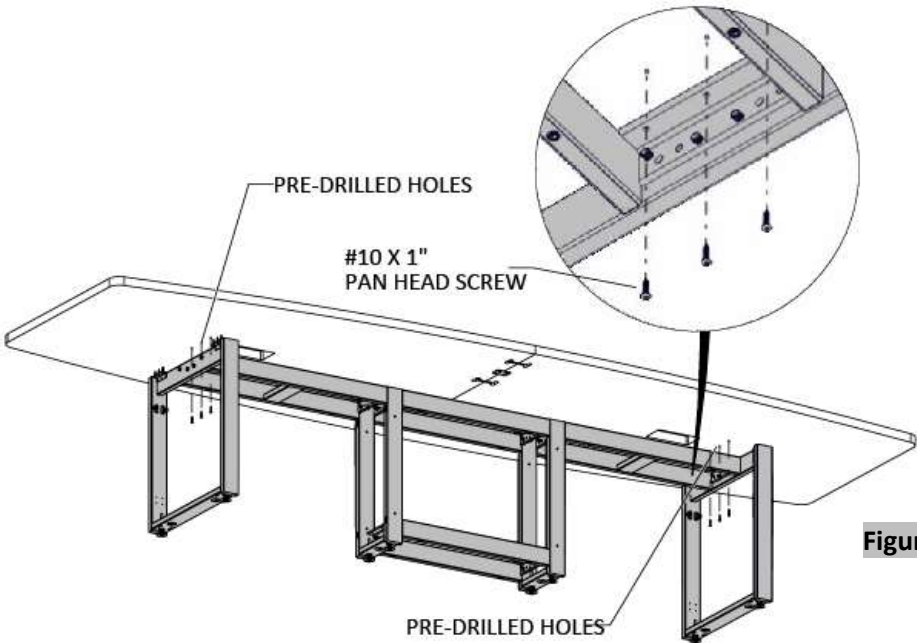

Figure 4
- Position the table base using the pre-drilled positioning holes and attach it to table top using #10 X 1" Oval Head Screws, (Figure 4).